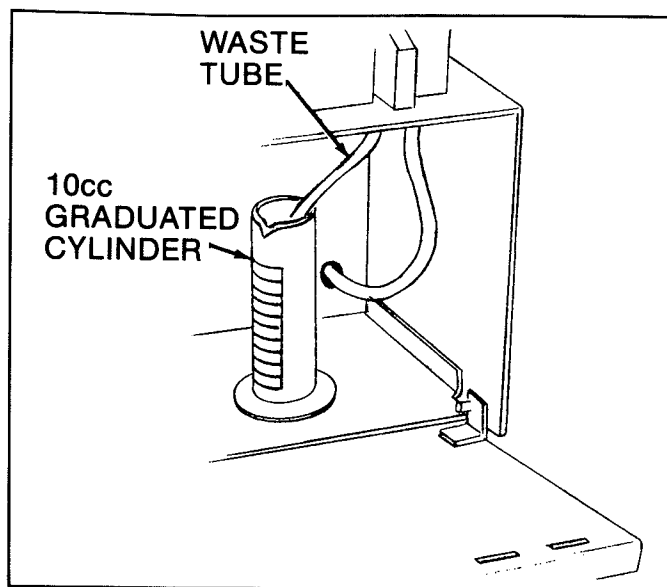

Figure 15. Flow-rate check setup.
- 4.2. Run the waste tube to a graduated cylinder. (See Figure 15.)